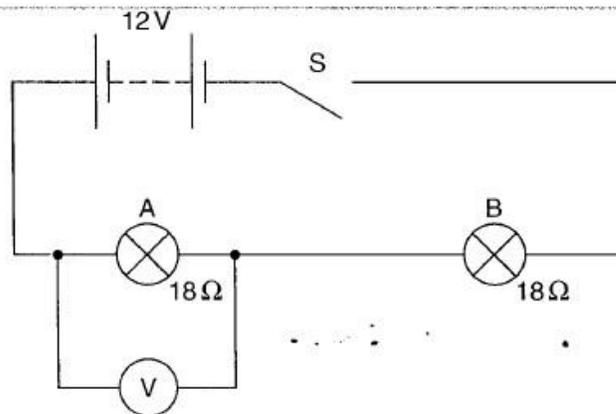

Fig. 10.1
- 10 The circuit shown in Fig. 10.1 uses a 12V battery. A and B are identical lamps, each designed to work from a 6V supply. M/J/2009-P32
- (a) Switch S is open, as shown in Fig. 10.1.